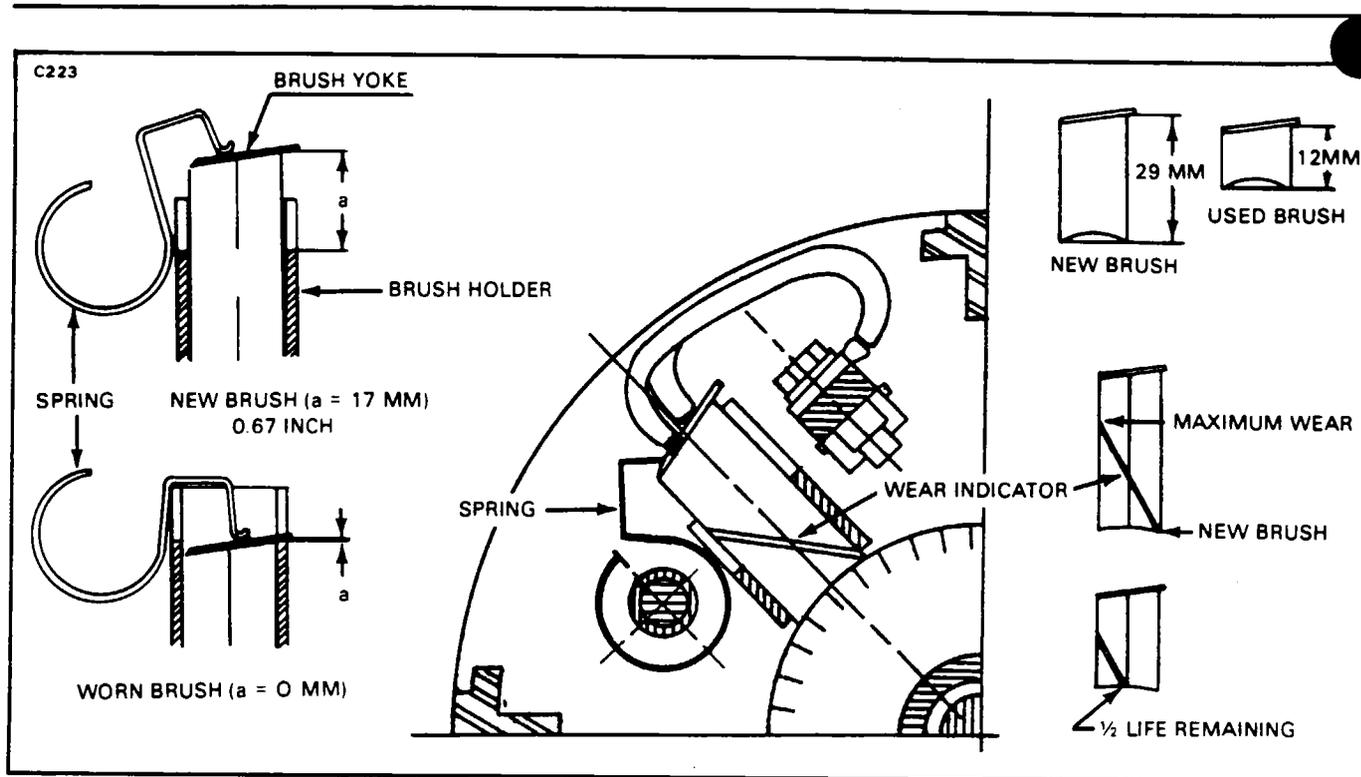

Figure 24-5. Brush Shunts Positioning and Brush Wear Checks
- B. Replace brushes if remaining allowable wear will be exceeded before the next inspection. See Figure 24-5 for brush wear limits.
*Position brushes according to the marks made during disassembly and also position brush shunts as shown in Figure 24-5.*